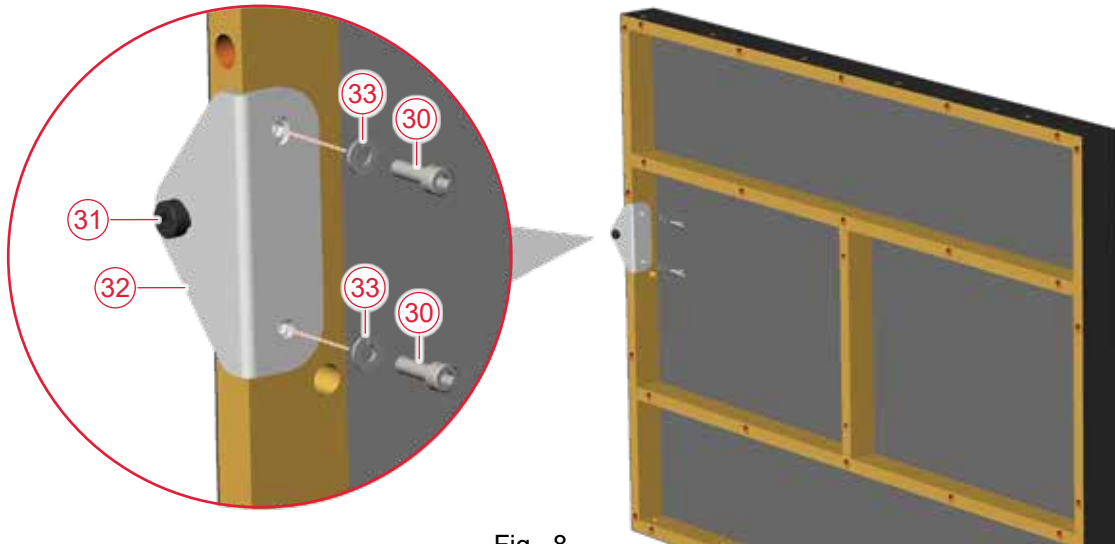

Fig. 8
The adjustment bracket (32) is included in the hardware bag and comes with the adjustment screw (31) pre-installed. Slide the adjustment bracket into position on the frame of the extension table; align with the two nuts embedded in the frame (Fig. 8). Attach using two M6 x18 socket head cap screws (30) and two M6 lock washers (33).